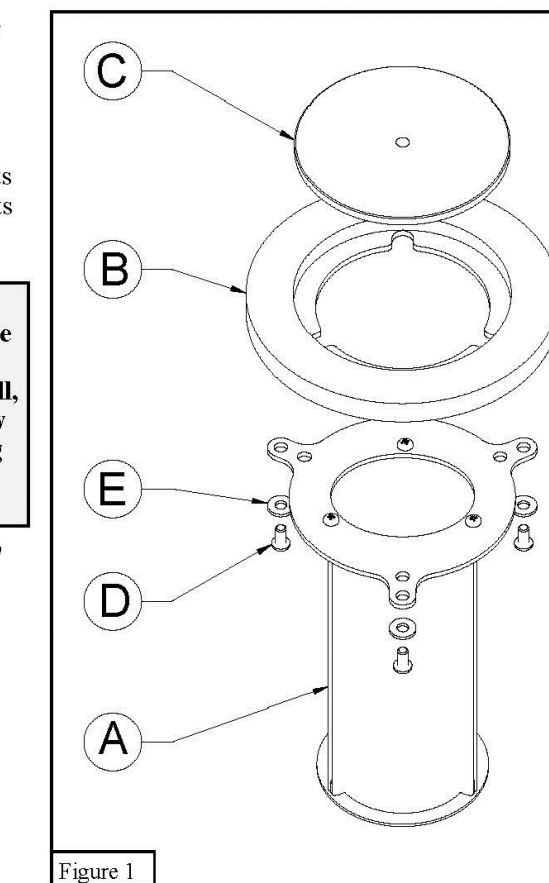

Figure 1
- Use the attached court diagram to determine where to locate and dig two 8" round and 48" deep holes 22 feet apart. See Figure 1.
- Insert *Winch* (A) and *Non-Winch* (B) posts into the holes with the lacing bars facing the pickleball court and fill holes with concrete. Each hole will require between 6 and 8 1/3 cubic foot bag of concrete. Make sure to brace posts while concrete is curing to maintain the 36 1/2" dimension and ensure the post remain perpendicular to the court surface. See Figure 1.
- Use the 5/32" Hex Key (F) to attach *Cover* (B) to the *Socket Assembly* (A) with the 1/4" Button Head Screws (D). Make sure the 1/4" Flat Washers (E) are in between the 1/4" Button Head Screw (D) and *Socket Assembly* (A). See Figure 1.